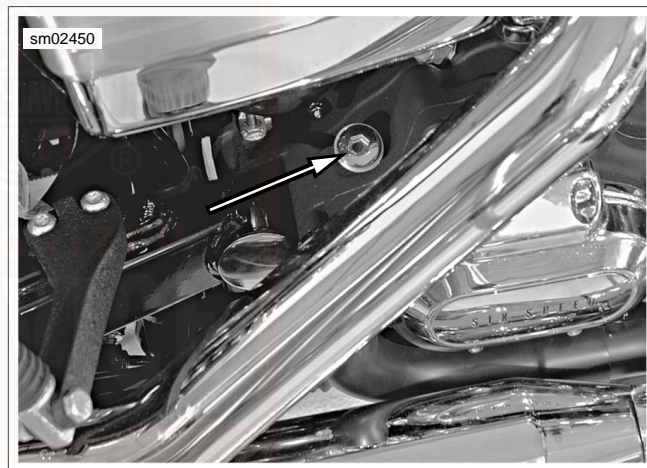

Figure 27. Transmission Filler Plug/Dipstick Location
2. See Figure 27. Unscrew and remove transmission lubricant filler plug with attached dipstick. Wipe dipstick clean.
1. See Figure 27. Remove transmission filler plug.